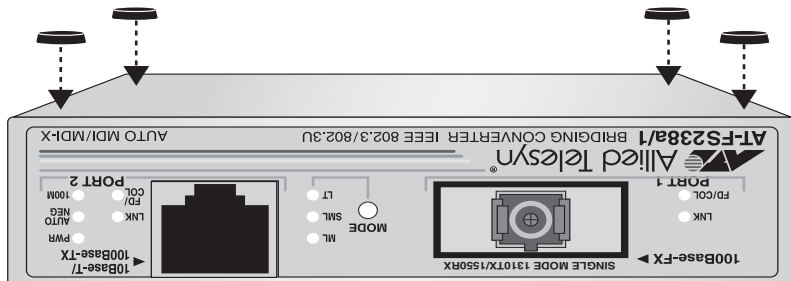

Figure 12 Attaching the Protective Feet
2. Attach the four protective feet (provided) to each corner of the bottom of the unit, as shown in Figure 12.